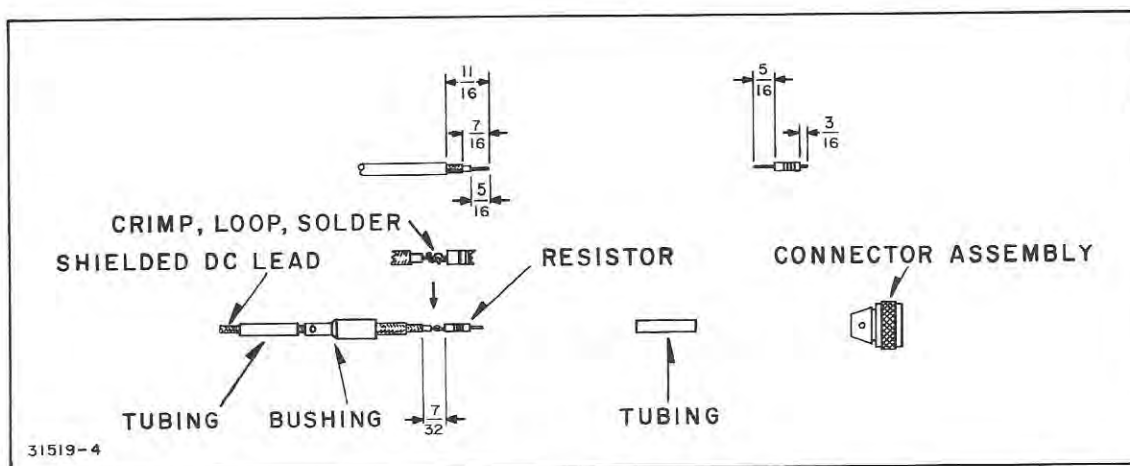

Figure 4. 1Z7 Connector Cap Assembly
Note that directional coupler 1Z7 is not provided with pressurized fittings. If a pressurized harmonic filter is used, 1Z7 must be installed in the line between the transmitter and harmonic filter. During installation of 1Z7, it will be necessary to assemble the connector cap assembly (see figure 4) and install the dc output lead, supplied as part of Power Determining Components, MI-560510. The dc output lead is then connected at terminal 1TB1-11 (located at the top of the basic transmitter rack, MI-560507), with the braid grounded.
The cap assembly supplied with the coupler consists of a connector, bushing, resistor and two lengths of tubing. These parts must be attached to the shielded dc indicator lead as illustrated in figure 4. The following procedure is recommended when assembling the connector cap.
1. Strip the shielded dc indicator lead as shown in figure 4.